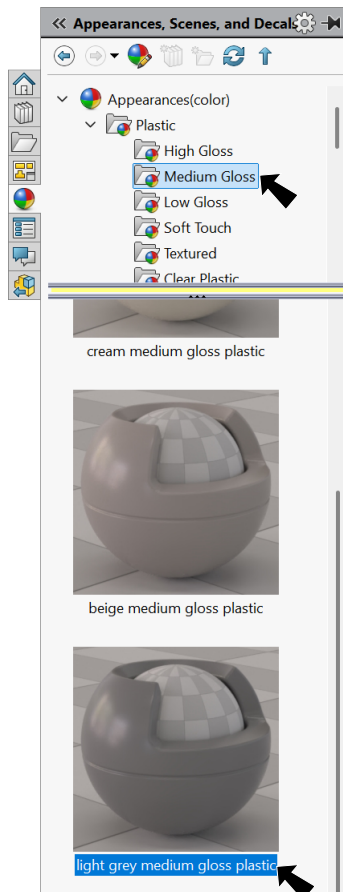

Fig. 129
Step 2. In the Appearances Task pane, expand **Plastic**, click **Medium Gloss** and in the lower pane select **light grey medium gloss plastic**, **Fig. 129**.